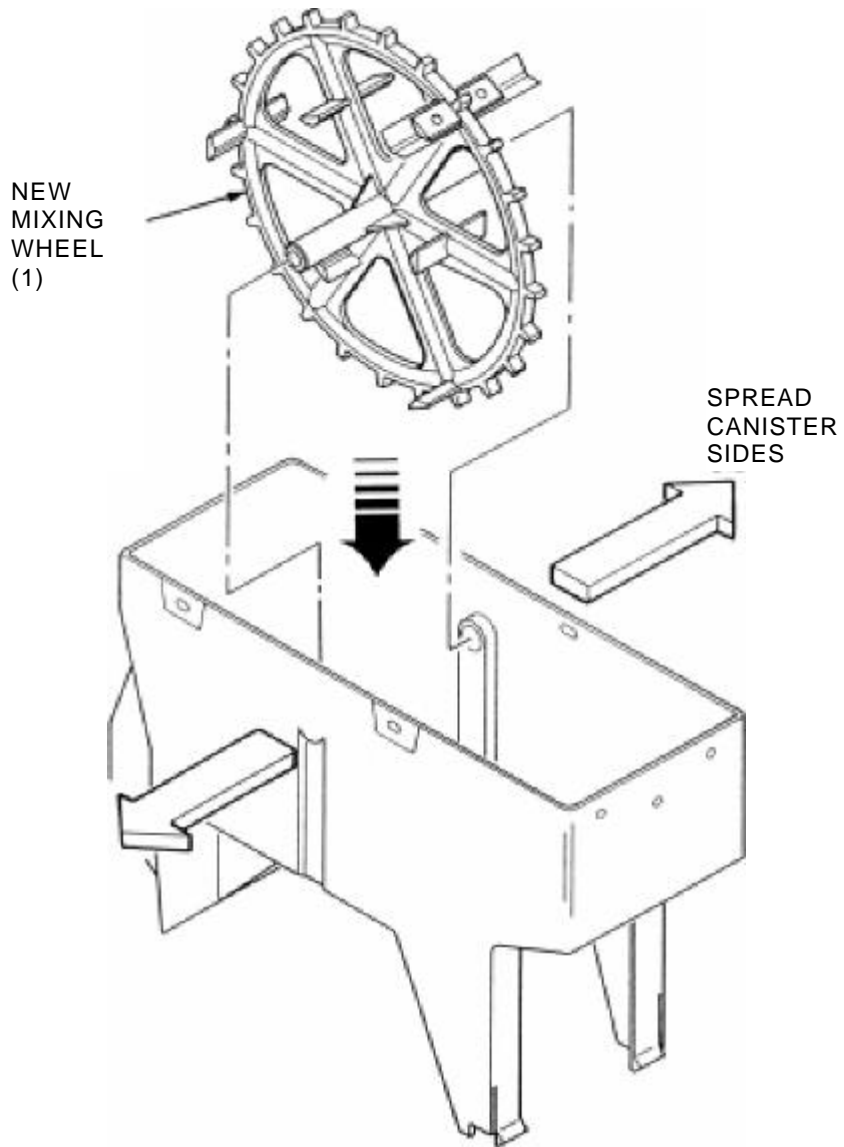

Figure 4.
5. See figure 4. Spread the canister sides and install the new mixing wheel (1).